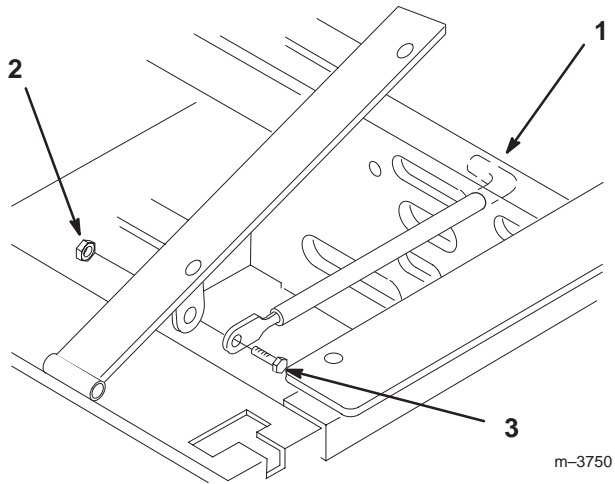

Figure 3
1. Tilt seat up. Remove the locknut (5/16 inch) from bolt attaching seat retaining rod to seat frame (Fig. 3).
2. Remove retaining rod from seat and insert the L shaped end of the rod into the hole directly above the left-side hydraulic pump (Fig. 3).
- Place the seat retaining rod to the outside of the mounting tab of the seat frame and secure with a bolt (5/16 x 1 inch) bolt and locknut 5/16 inch (Fig. 3).